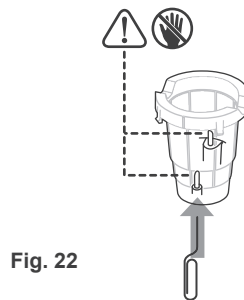

Fig. 22
3. If the two bottom Needles are clogged, then use a paper clip or tooth brush to clean the Needles, and rinse with warm water. (Fig. 22)
CAUTION: There is a sharp Needle underneath the Cover and two sharp Needles inside the Red Cup Holder. To avoid risk of injury and do not put your fingers in the Red Cup Holder. (Fig. 22)